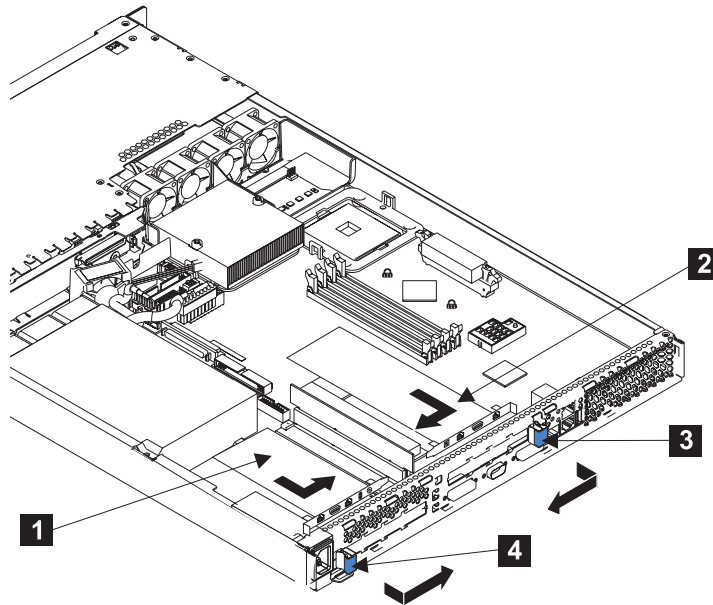

Figure 149. SAN Volume Controller 2145-4F2 with its adapters installed
3. Pivot the expansion-slot clip (**3** or **4** in Figure 149 on page 165) toward the adapter and press it into place.